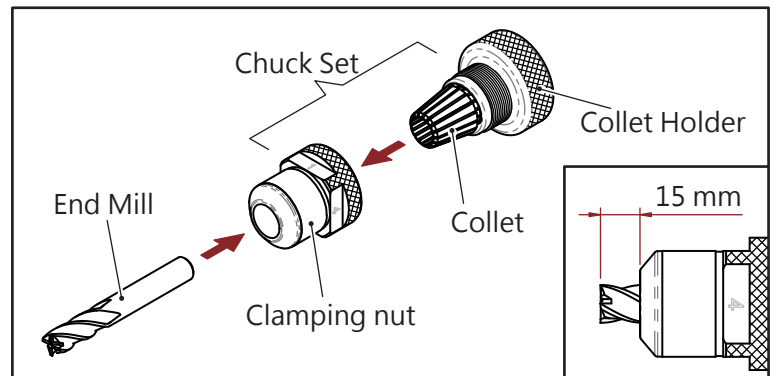

Fig. 6-2
5. Screw in a little bit by clamping nut, then insert end mill shank into the clamping nut until the end mill tip is about 5 mm out of the clamping nut (Fig. 6-2), slightly screw the chuck set to tighten the end mill a little bit.